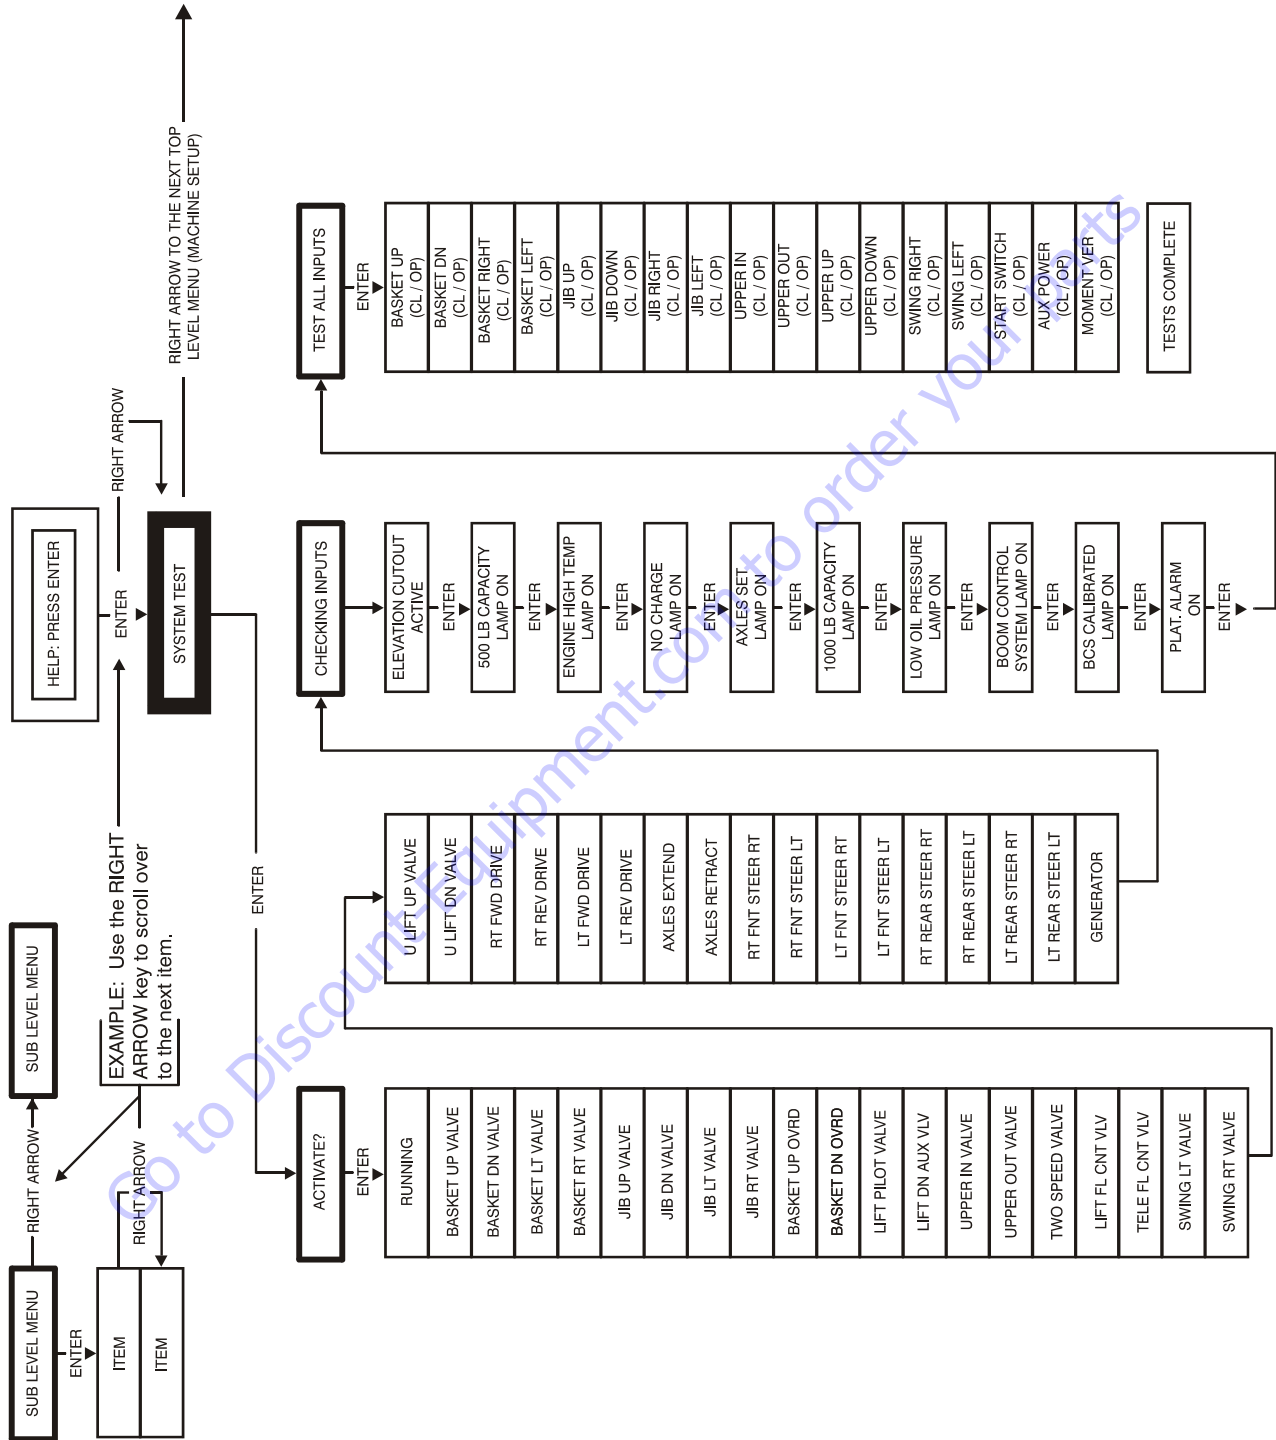

Figure 6-16. System Test Flow Chart - Ground Station Tests
6. Follow the flow path in Figure 6-16., System Test Flow Chart - Ground Station Tests and go through the component tests. Hit the ESC key during any part of the test to return to the main menu without completing all tests or wait until all tests are complete. During the TEST ALL INPUTS sequence, the analyzer allows control switches to be operated and shows if they are closed (CL) or open (OP).